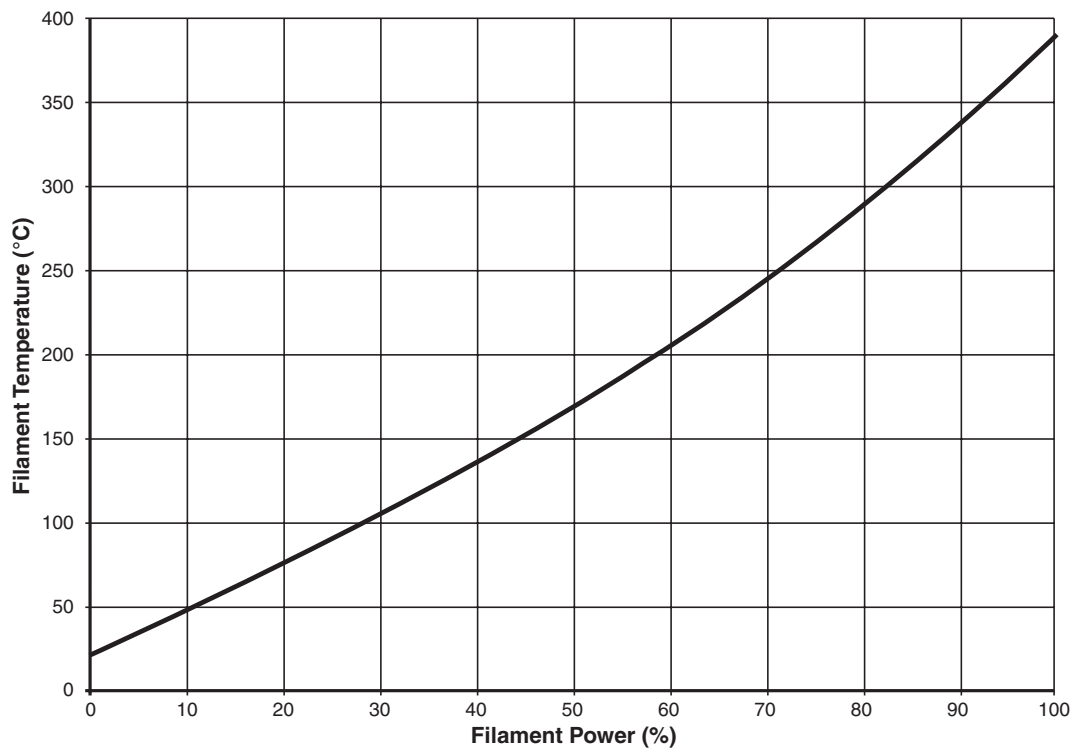

Figure 11: Approximate Filament Temperature vs. Filament Power Setting
5. Set the filament temperatures to at least 50°C and as much as 100°C higher than the detector temperature. Refer to **Figure 11**, which outlines the relationship between the filament power settings and the actual filament temperature.
Enter the desired Channel A filament power setting here. *Refer to Figure 11 on page 20* to view the relationship between the filament power setting and the filament temperature.
Enter the desired Channel B filament power setting here. *Refer to Figure 11 on page 20* to view the relationship between the filament power setting and the filament temperature.